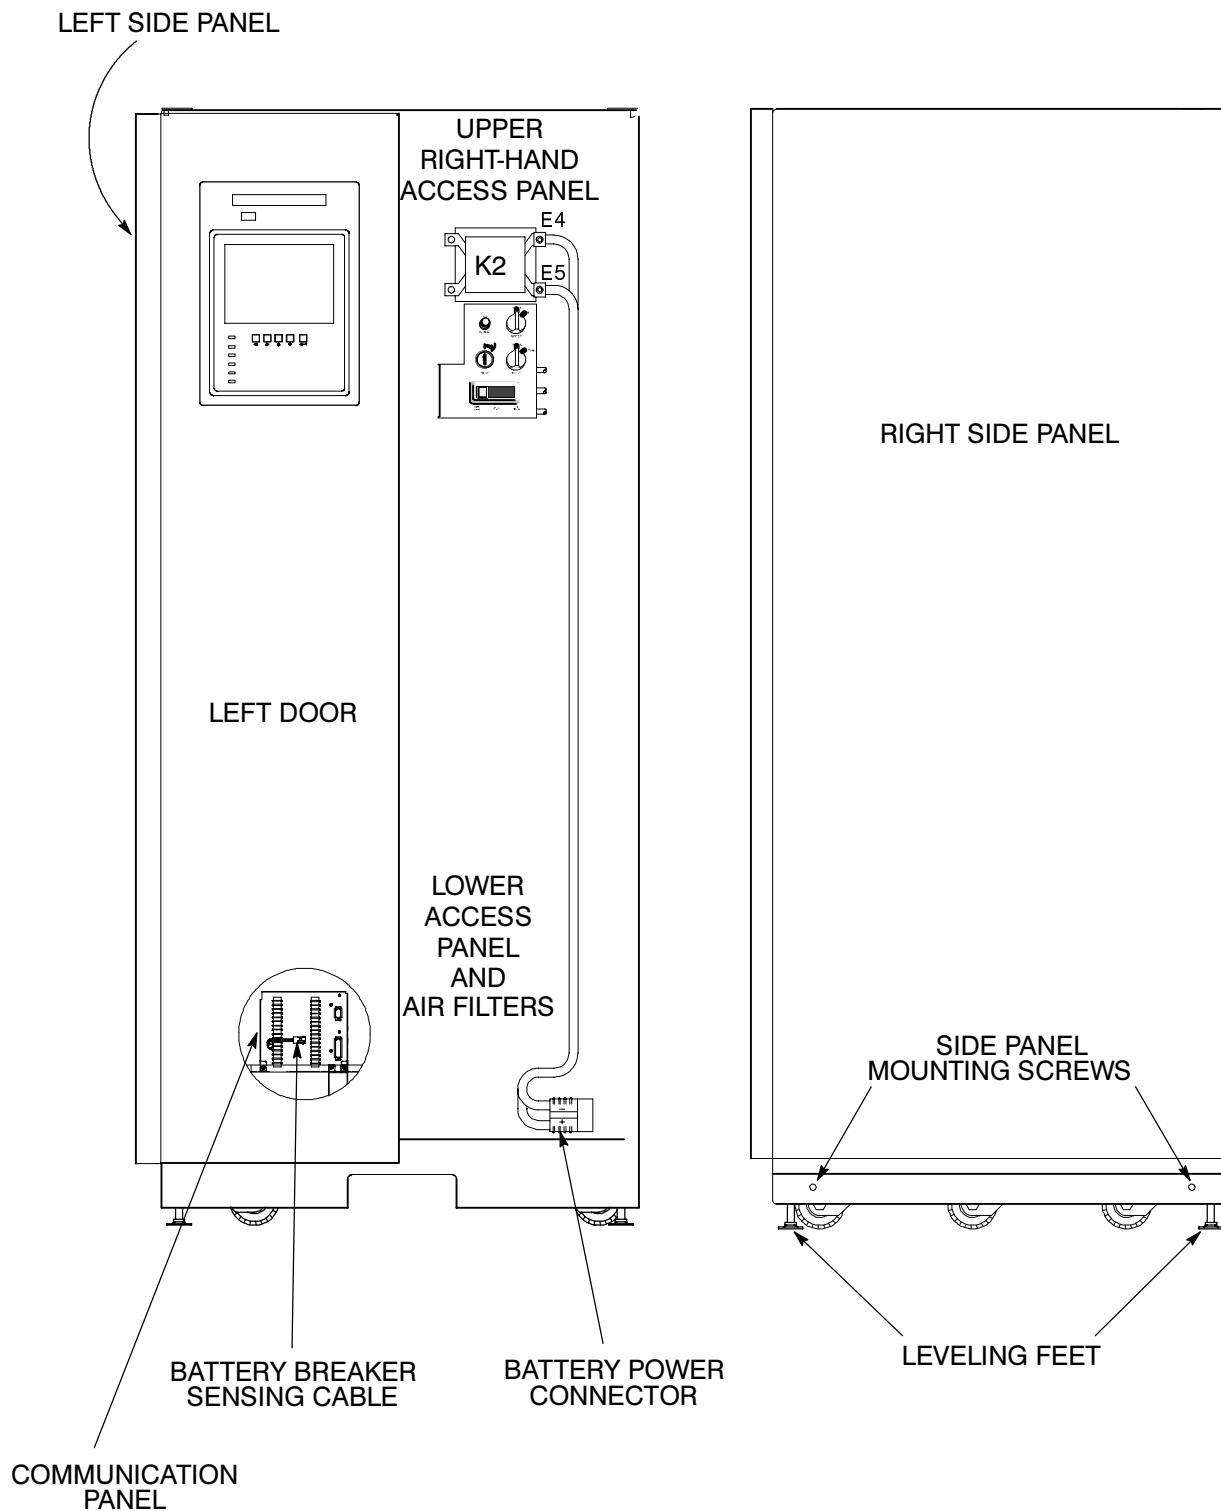

Figure 5. Preparing the UPS for Installing Other Cabinets
If you are installing optional cabinets or accessories, such as a Power Distribution Module (PDM) cabinet, an input transformer cabinet, or a Remote Monitor Panel (RMP), you must prepare the UPS cabinet for the installation of these options. Refer to Figure 5 for the locations of the items mentioned in these procedures. Also, refer to *Balanced Power Model 27 and Model 43 Auxiliary Battery Cabinets Installation Manual*, 164201017, for information on installing battery cabinets.
5. Remove the lower metal access panel (see Figure 5 for location). Set the access panel and hardware aside for later reuse.
4. Remove the lower metal access panel (see Figure 5 for location). Set the access panel and hardware aside for later reuse.